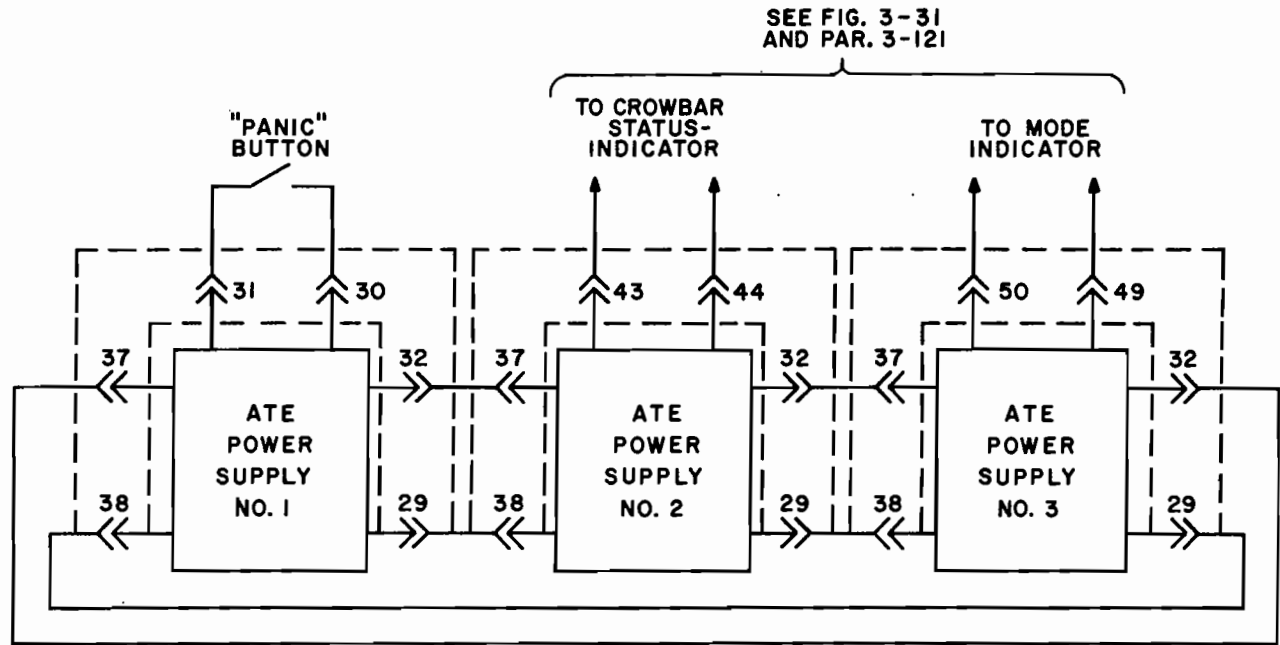

FIG. 3-19 MULTIPLE POWER SUPPLY FAULT DETECTION LOOP.
- 3-92 In applications where several power supplies are used it is often necessary to shut down *all* power supplies if a malfunction on a *single* supply forces its shut-down. Sometimes, a "PANIC BUTTON" arrangement is desired, where *all* system power supplies can be shut-down with a single manual switch or a common signal from a controller. ATE power supplies are ideally suited for multi-unit operation since all necessary crowbar control circuit connections are terminated at the rear PROGRAMMING CONNECTOR (PC-12). The crowbar control connections in a multi-unit application can be externally wired to form a closed loop fault-detection circuit as shown in FIG. 3-19. Although only three ATE power supplies are shown, the control loop may be extended to include as many ATE power supplies as are required.